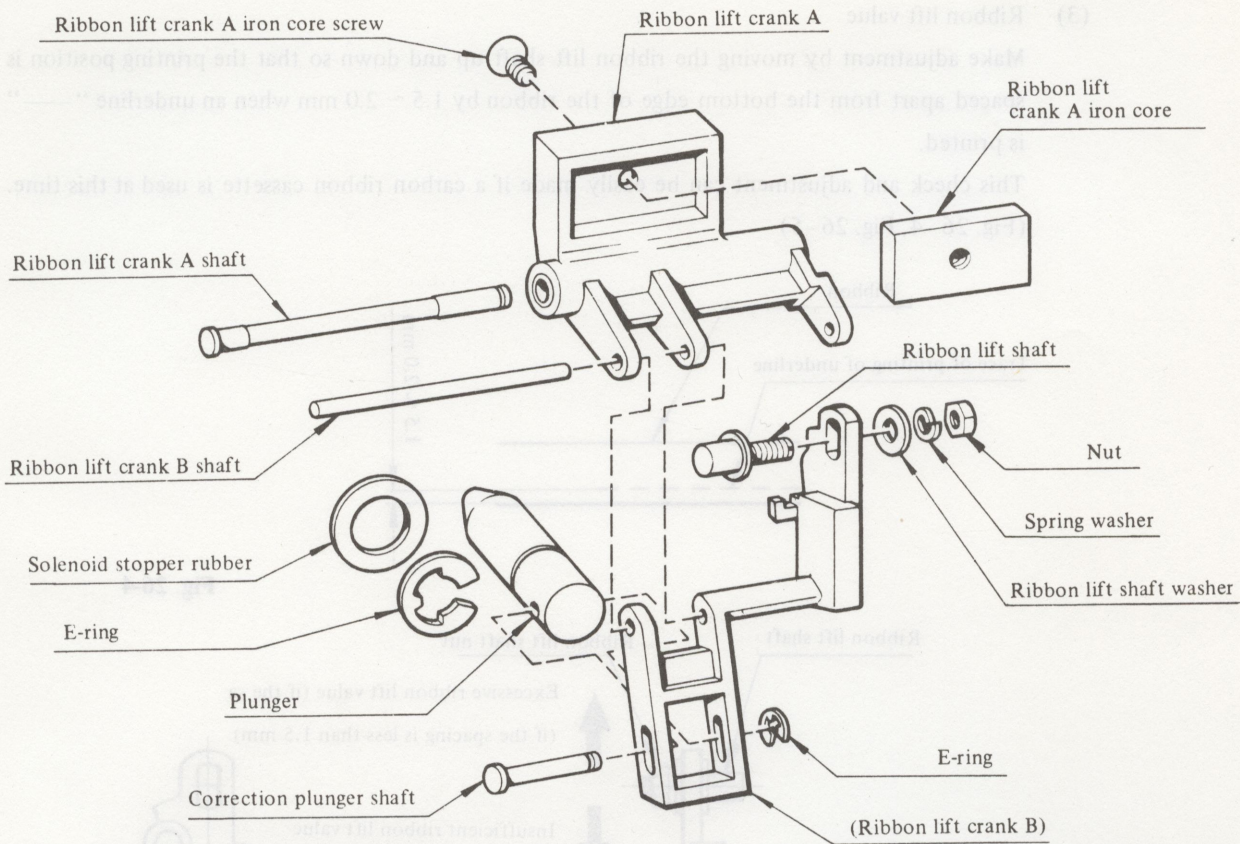

Fig. 26-2
- (9) Disassembly of ribbon lift cranks A & B
- (a) Extract ribbon lift crank B shaft out of ribbon lift cranks A & B. (Fig. 26-2)
- (b) Remove ribbon lift crank A iron core screw. Disassembly to ribbon lift crank A, ribbon lift crank A iron core and screw occurs as a result. (Fig. 26-2)
- (c) Remove the E-ring from the correction plunger shaft and extract the correction plunger shaft out of ribbon lift crank B. (Fig. 26-2)
- (d) Remove ribbon lift shaft nut. Disassembly to ribbon lift crank B, ribbon lift shaft, ribbon lift shaft washer, spring washer and nut occurs as a result. (Fig. 26-2)
- (e) Remove the solenoid stopper rubber and snap ring from the plunger. (Fig. 26-2)